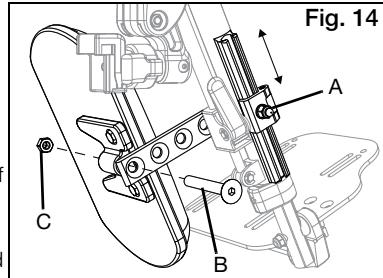

Fig. 14
1. Loosen nut (Fig. 14:A) using a 10mm wrench.
1. Remove screw (Fig. 14:B) and nut (Fig. 14:C) on calf pad arm using a 5mm Allen wrench and a 13mm wrench.